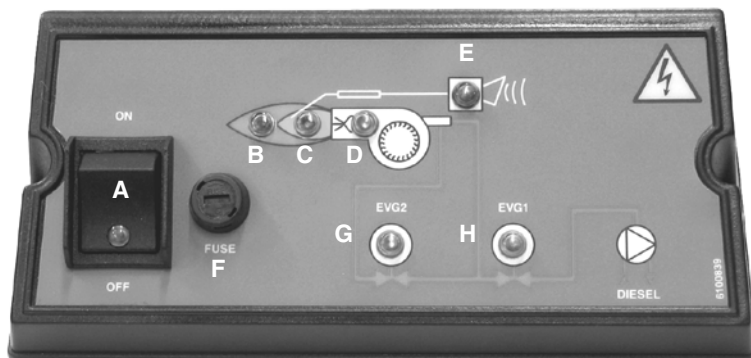

Fig. 36
- Turn on the burner using the switch **A** on the control panel (Fig. 36).